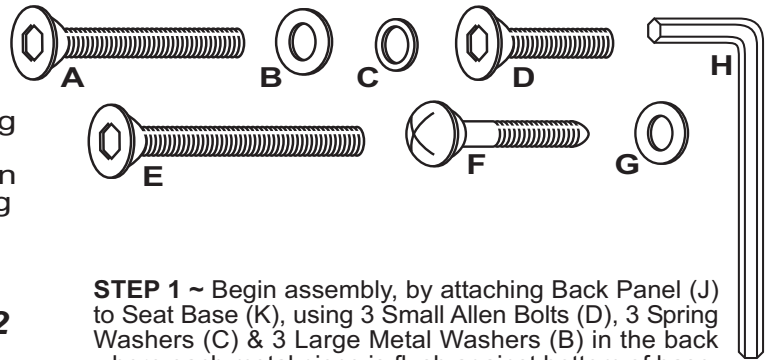

FIGURE 1
STEP 1 ~ Begin assembly, by attaching Back Panel (J) to Seat Base (K), using 3 Small Allen Bolts (D), 3 Spring Washers (C) & 3 Large Metal Washers (B) in the back where each metal piece is flush against bottom of base. Also, use 2 Long Allen Bolts (E), 2 Spring Washers (C) & 2 Large Metal Washers (B) from the inside of the seat base. Tighten all bolts. See Figure 1.
STEP 2 ~ Next, attach both Leg Panels (L) by crossing them between each other, and attach Top Inner Ring (M) to inside of each panel using 1 Medium Allen Bolt (A), 1 Spring Washer (C) & 1 Small Metal Washer (G) per each leg. Only hand tighten bolts for this step. See Figure 1.